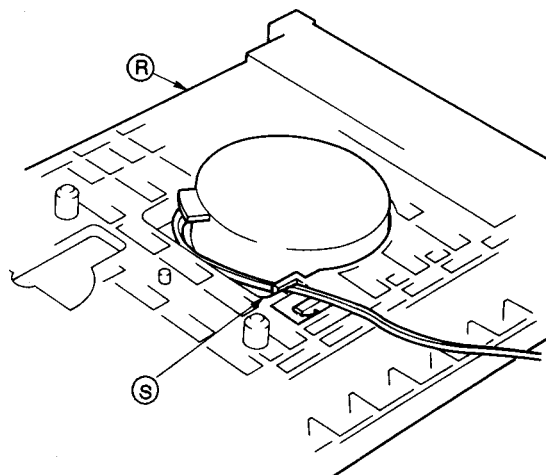

Fig. 1-7
5. Remove the lead wire from the lead wire hook ⑬ (Fig. 1-7) for the spindle motor at the rear of the mechanism base ⑯.
4. While the servo-mechanism unit is raised, hook the lead wire from the spindle motor to hook ⑤ (Fig. 1-7) on the rear of the mechanism base ④.